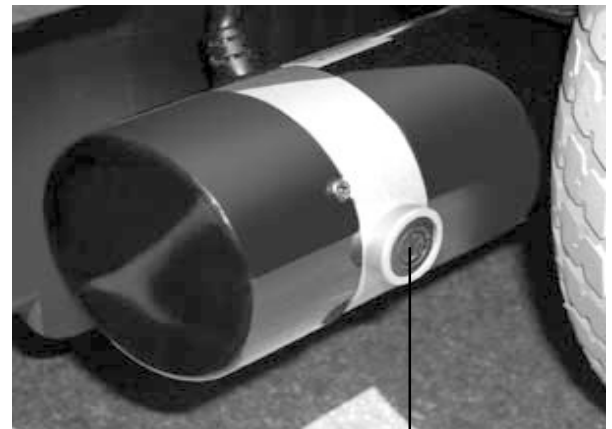

Figure 29. Motor
3. Unscrew the motor brush caps. See figure 29.